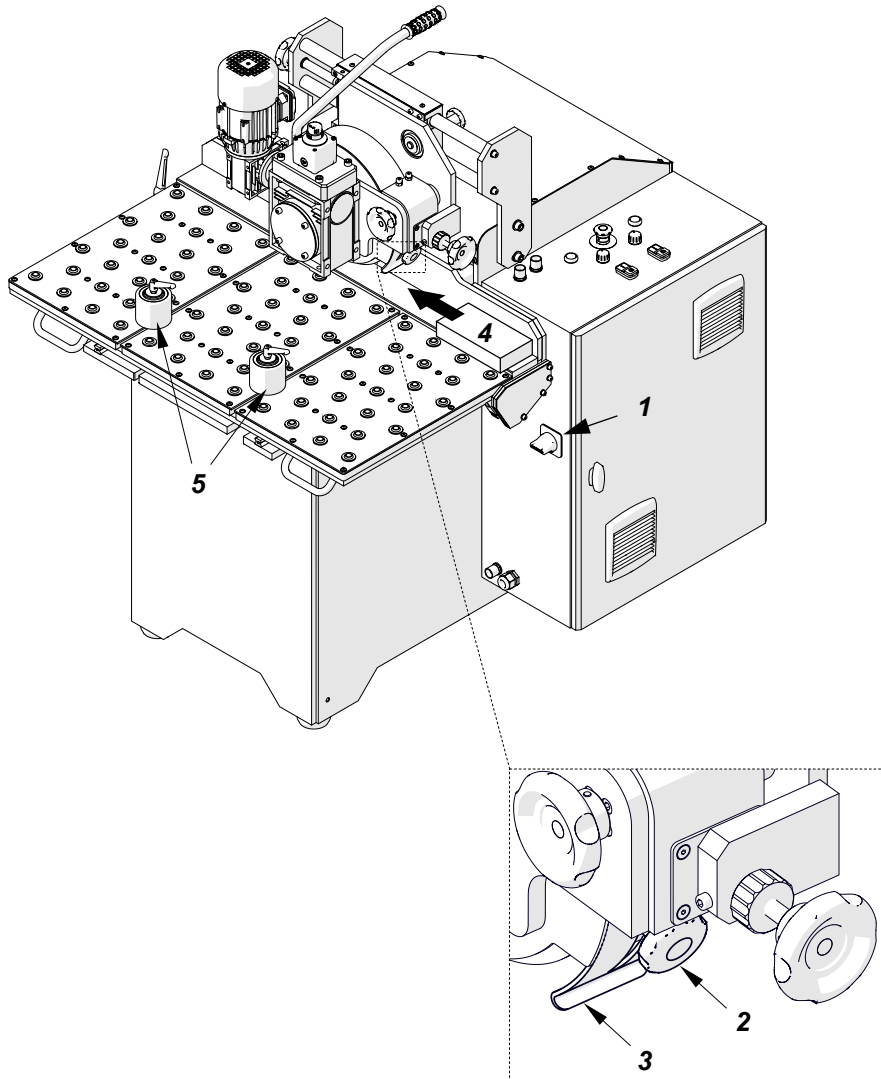

Fig. 12. Starting the work
Connect the machine to the power source and use the switch (1, Fig. 12) to turn on the power. On the control panel, press START, and then start the SPINDLE and FEED. Use knobs to set the required spindle speed and feed speed. Next, loosen the knob (2, Fig. 12), lower the chip guard (3). Tighten the knob in this position.
Put the workpiece on the right side. Press the workpiece to the vertical and horizontal base and move it to the direction (4, Fig. 12) to put it under the feed wheel. After the first pass, move the vertical base away to get the correct gap for the next pass. Between the vertical base and the horizontal base, put the bevel height gauge related to the angle. On the gauge scale, read the bevel height related to the gap. Make sure that the vertical base is not in contact with the milling head.
To get better contact between the workpiece and the vertical base, use the rollers (5, Fig. 12) to press the workpiece.